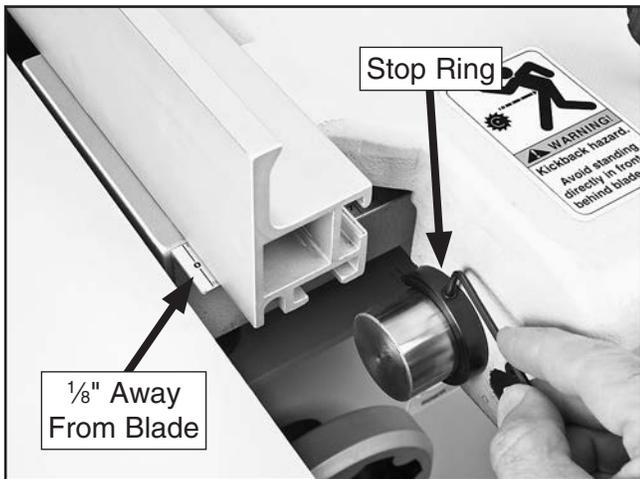

Figure 39. Installing the rip fence stop ring.
45. Back the rip fence away from the saw blade at least $\frac{1}{8}$ ", then slide the fence rail stop ring onto the rail and secure it against the fence body by tightening the pre-installed set screw, as shown in **Figure 39**.